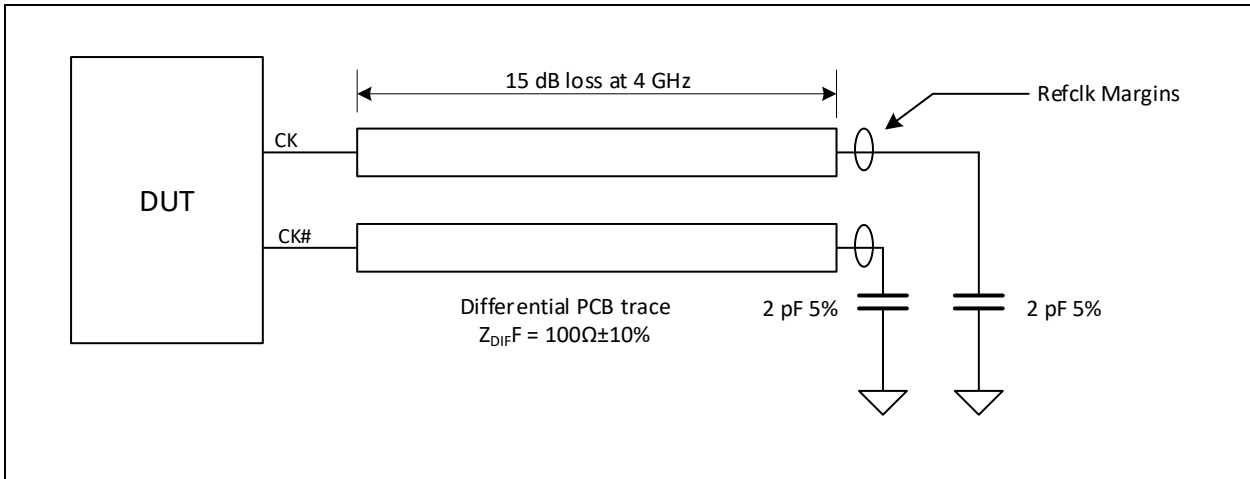

Figure 23. PCIe Test Circuit
1. Measured into AC test load as per Figure 23 .